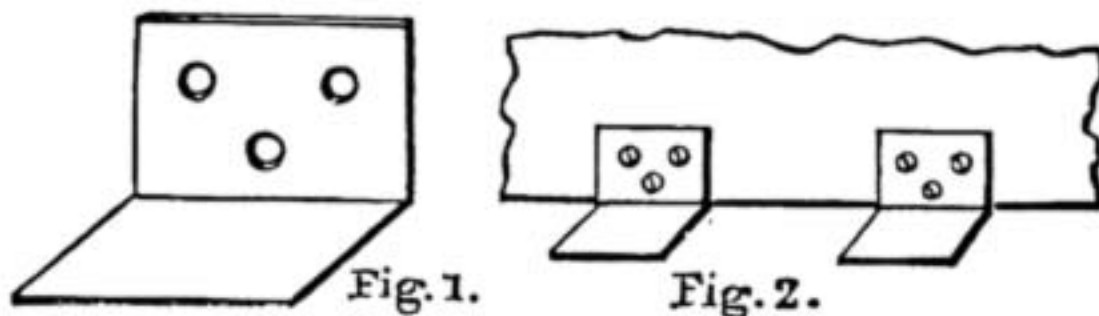

Fig. 1. — Glass Support. Fig. 2. — Method of Securing Glass Supports to Back.
**Circular Saw Rigs.**—G. E. writes:—"In No. 11 (see page 172) I regret to see FOREMAN PATTERN MAKER's failure to understand me, but will try to be more explicit. Respecting Fig. 1, very few amateurs are capable of making it as drawn, because it requires to be centred and boxed up in a collar plate, tapped between centres, faced, and the recess turned out to clear thread—therefore, superfluous work with small results. I must always take exception to cutting a thread in a saw spindle, because (according to the law of mechanics applied) the action (if possible) should always be between centres, and certainly possesses the advantage of being the simplest form. Again, if the spindle be made from cast brass to pattern, it will be too soft to be of much practical use. Bessemer steel is best. The fitting of chucks to a lathe is different in every respect (without exception); to cut and fit a chuck is one thing, but to screw a 6-inch brass spindle is another; and if you expect the same results, I am afraid you will be very disappointed. Wood turners mostly use wood, where possible, in all appliances for their lathe; but I must say (after thirty years' experience) I never knew of a piece of wood (hard or soft) that kept true for several years. Then what about the saw? The mandrel nose terminates at the face of collar fitting. Yes; then the amount of steadiness given to chuck depends on whether the face is true and ground flat, and how the mandrel fits in the collar. The table in T-rest socket is preferable because simple, easily fitted with angle metal fence, and fixed with bolt, nut, and slot; therefore adapted equally to amateur and professional. I must object to complicated appliances for amateurs, as productive of unfavourable impressions, rather than an incentive to work."
**About WORK.**—PRO BONO PUBLICO writes:—"Allow me a short space in what I am pleased to call 'ours,' to add my testimony to what I consider the value of such a well got-up paper for such a nominal sum, although the high compliments paid to you and your organised staff by previous correspondents leaves but little to be said by me. My opinion is this, were I to write a volume in praise of WORK it would not express my satisfaction with which I read each number. (1) Pray keep from technical terms, or, if used, use them sparingly and with an elucidation, as this is, in my opinion (and I speak from practical experience), a shoal whereon amateurs get metaphorically shipwrecked. (2) I would also, wherever practicable, like to see working drawings, when reduced, given as  $\frac{1}{4}$  in. to the foot, leaving other fractional scales till an amateur has gained some experience with the rule, bevel square, etc. (3) I would, as an amateur worker having a number of hours each day at my disposal, and sitting amongst a multitude of different articles of my own make, like to give a little of my own experiences to others, whereby home may be made attractive and the pot-house kept in the distance (I am not teetotal), and if acceptable, a few designs of artistic articles, and also as many difficulties surmounted as you advise this week. Buy tools wherever you see them cheap. This course I have adopted for some years, and I am convinced the pawnbrokers' shops have a good stock, where, if an amateur is short of cash at the time, an article can be secured for a deposit, and got at some more convenient time. (4) Surely each amateur has amongst his acquaintances a friendly joiner or one meeting his requirements according to his hobby, and to him I would go for a few practical lessons, getting to know, above all, something of the fundamental principles of geometry, a few problems only being worth a gold-mine to an amateur."—[ (1) WORK is for professionals as well as amateurs, and technical terms cannot be excluded. But why object to technical terms at all? After all they are the right terms, and terms that are recognised by the trades. Any term you do not understand can be explained to you in "Shop," if you will ask the question. (2) No object can be gained by bringing all working drawings to a scale of  $\frac{1}{4}$  in. to a foot. There is nothing, or ought to be nothing, puzzling in the proportions for working drawings, but if you cannot understand them a paper shall be given in explanation. (3) You are always at liberty to communicate the results of your experience with designs, working drawings, etc., and papers on any subjects on approval. (4) By all means go to the "friendly joiner" for practical lessons in carpentry, but the "fundamental principles of geometry" will be best gathered from a text book, such as the "Lessons in Geometry" in the "Popular Educator."—Ed.]
**Overmantel with Cupboards.**—KILDONAN writes:—"Having procured the glass and some narrow moulding, I found myself face to face with a difficulty—namely, how was I to secure the three glasses at the bottom, so that when the overmantel was lifted they would not slip out between the back and the moulding, and come to grief? This required a smoke. I offer my plan for what it is worth to any novice in a similar quandary. Ferretting out some pieces of sheet brass and an old file, I proceeded to shape six strips, each  $1\frac{1}{2}$  in. by  $\frac{1}{2}$  in., and then to bend them at right angles  $\frac{1}{2}$  in. from the end, as in Fig. 1. The dimensions are probably